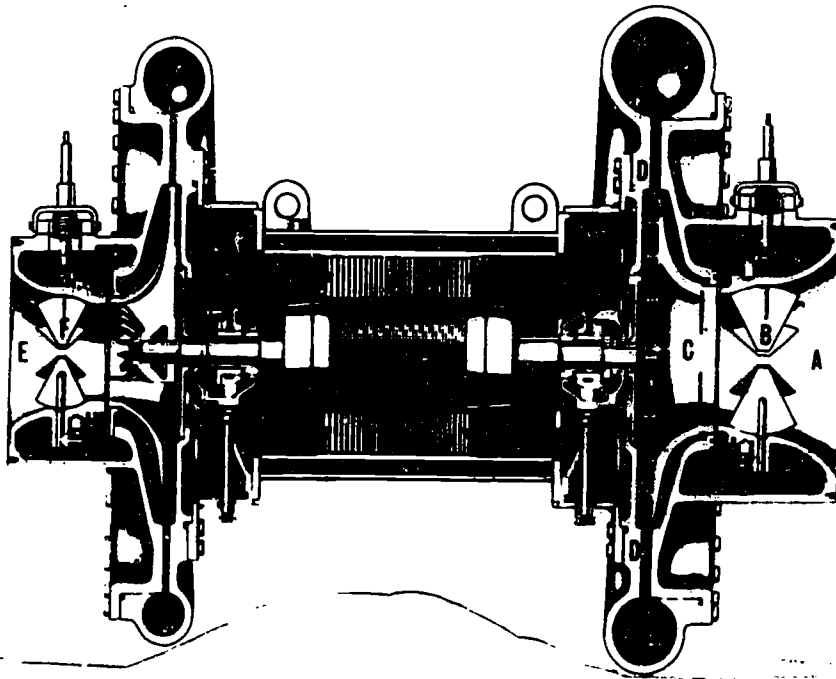

Figure 6. Centrifugal Compressor
Capacity of the compressor is regulated, to balance the refrigerant flow with evaporator load, by pneumatically actuated inlet guide vanes. These vanes are located immediately ahead of each stage of compression on the inlet side. Using figure 6 as a guide, refrigerant gas enters the first stage inlet (A), passes through the inlet guide vanes (B). These vanes not only regulate flow but they also pre-rotate the gas causing it to enter the impeller (C) at the optimum angle. The impeller accelerates the gas and discharges it through a circular diffuser passage (D) into the volute. Here the kinetic energy (energy of motion) imparted or given to the gas by the rotating impellers is converted to static pressure. Discharge gas from the first stage then enters the crossover pipe. Before entering the second stage, it is cooled by flash gas coming from the economizer. The cooled discharge gas now enters the second stage inlet (E) and second stage inlet guide vanes (F), where it is compressed again. After this second compression, the gas is discharged into the condenser.